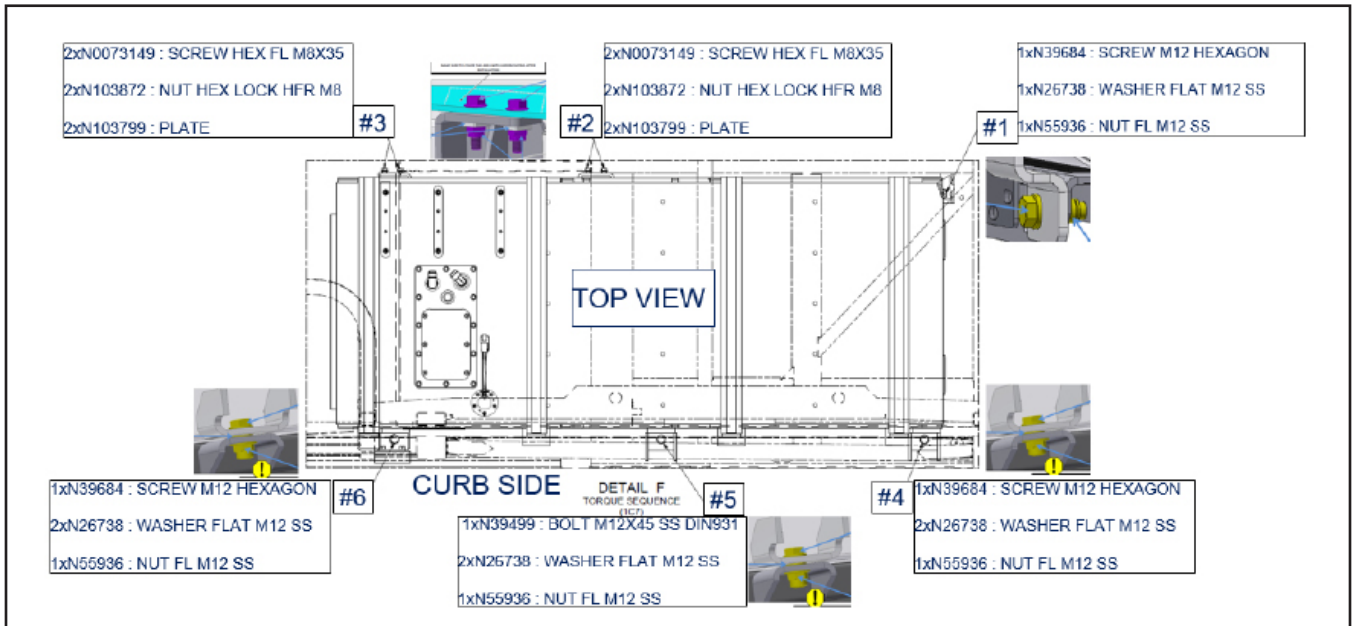

Figure 6 - Installation of Hardware
- 1.18. Pre-torque respecting the sequence below 1,2,3,4,5,6 = 5 ± 2 Nm (adjust if needed to have enough support) (see figure 6).